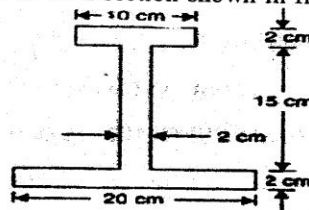

Figure-3
3. (a) Find the centre of gravity of the I-section shown in figure-3. (8)